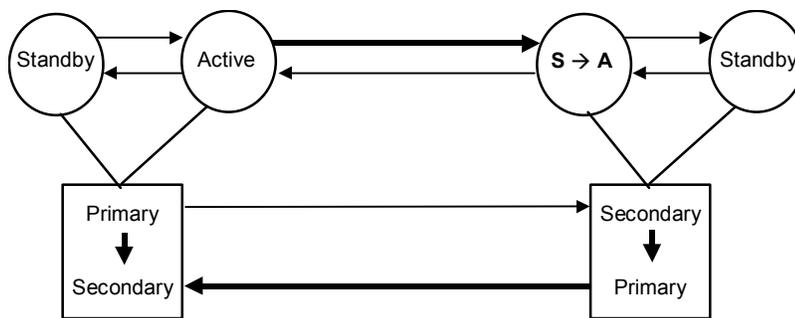

Figure 2.5 Package Transfer on High Availability (HA) Software
In a high availability (HA) environment, a package is a group of applications that are scripted to run on the secondary host in the event of a primary host failure. When using the HA software (e.g., MC/ServiceGuard), the package can be transferred to the standby node as an operation executed by the system administrator (see Figure 2.5). However, if the operation is performed in an environment in which Hitachi TrueCopy is used, the volume is switched from primary to secondary as if an error has occurred, even though data consistency is assured. When returning the package to the current node, it is necessary to copy the secondary volume data into the primary volume, and this operation can take as much time as the initial copy operation for the pair. In actual operation, no package can be transferred when TrueCopy is used. The secondary package is switched to the primary package, and vice versa, when the primary volume is switched to the secondary volume. Therefore, the primary and secondary TrueCopy volumes should be switched depending on the package state.